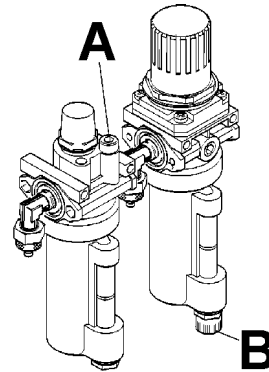

Fig. 6.0-3
H. Discharge water from air filter every day!! Do this by turning the knob "B" clockwise and push upward. Water will automatically be discharged. (See 'B' at Fig. 6.0-3).